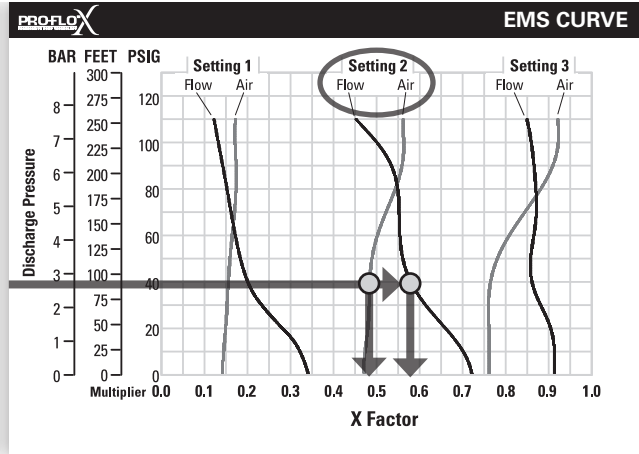

Figure 2
FIGURE 2 When the pressurized diaphragm, diaphragm A, reaches the limit of its discharge stroke, the air valve redirects pressurized air to the back side of diaphragm B. The pressurized air forces diaphragm B away from the center while pulling diaphragm A to the center. Diaphragm B is now on its discharge stroke. Diaphragm B forces the inlet valve ball onto its seat due to the hydraulic forces developed in the liquid chamber and manifold of the pump. These same hydraulic forces lift the discharge valve ball from its seat, forcing fluid to flow through the pump discharge. The movement of diaphragm A toward the center of the pump creates a vacuum within liquid chamber A. Atmospheric pressure forces fluid into the inlet manifold of the pump. The inlet valve ball is forced off its seat allowing the fluid being pumped to fill the liquid chamber.
Step 2: Determining flow and air X Factors. Locate your discharge pressure [2.8 bar (40 psig)] on the vertical axis of the EMS curve (Figure 2). Follow along the 2.8 bar (40 psig) horizontal line until intersecting both flow and air curves for your desired EMS setting (in this case, setting 2). Mark the points where the EMS curves intersect the horizontal discharge pressure line. After locating your EMS points on the